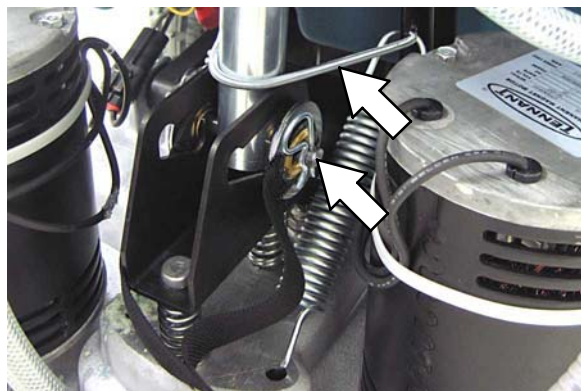

FIG. 2
2. Remove the lower clevis pin and spring from the actuator (Fig. 2). Set all hardware aside. If a block was used to support the scrub head, remove the block and carefully lower the scrub head to the floor.